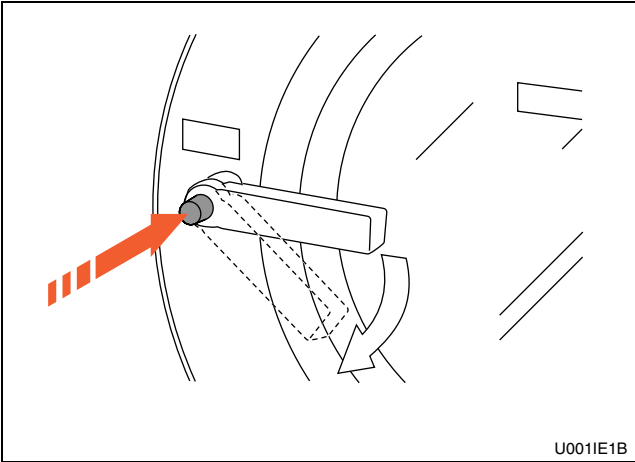
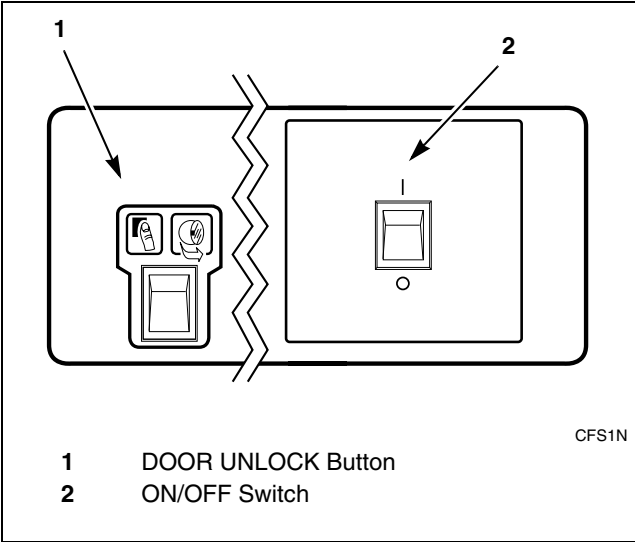

Figure 8
Figure 9
2. Turn on the ON/OFF switch on the front panel to the ON position. Refer to *Figure 9*.
3. Push button and turn handle clockwise. Refer to *Figure 8*.
4. Press and hold the DOOR UNLOCK button on the left side of the control panel while performing the above step. Refer to *Figure 8* and *Figure 9*.